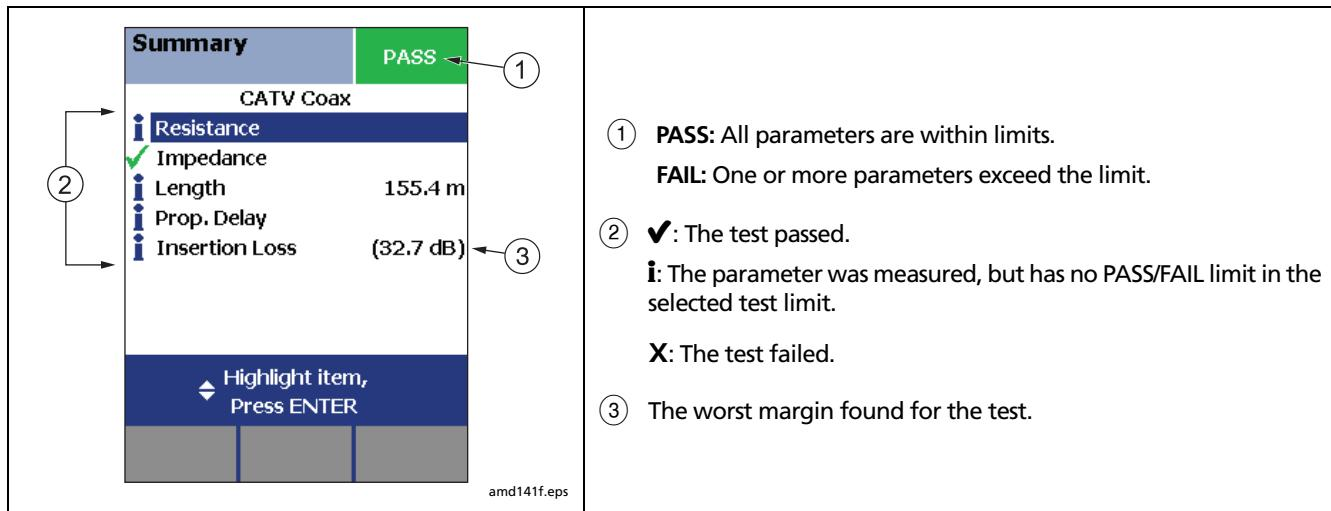

Figure 21. Autotest Results for Coaxial Cabling
- 6 The tester shows the Autotest **Summary** screen when the test is complete (see Figure 21 on page 40). To view results for a specific parameter, use to highlight the parameter; then press .
Figure 21 describes the Autotest Summary screen.